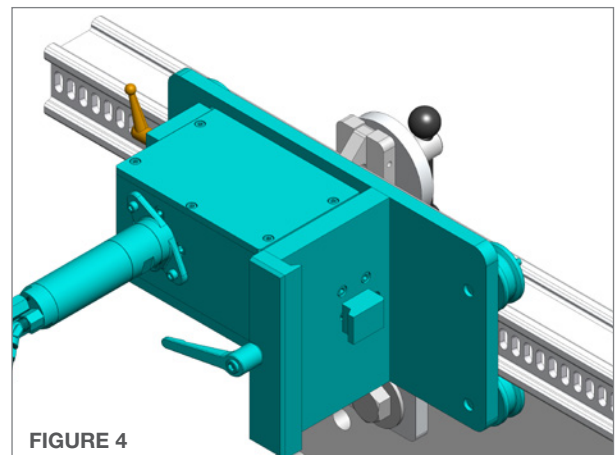

FIGURE 4
4. Loosen the **Quick Adjust Handle** and pull the gearbox away from the carriage plate. This will allow the **Horizontal Drive Carriage** to slide onto the rail without pneumatic power to rotate the drive. Center the carriage on the top rail and push the gearbox back toward the carriage plate. This will engage the gear into the rail slots. Verify the gear is engaging the slots correctly and tighten the adjustable handle. **(Figure 4)**